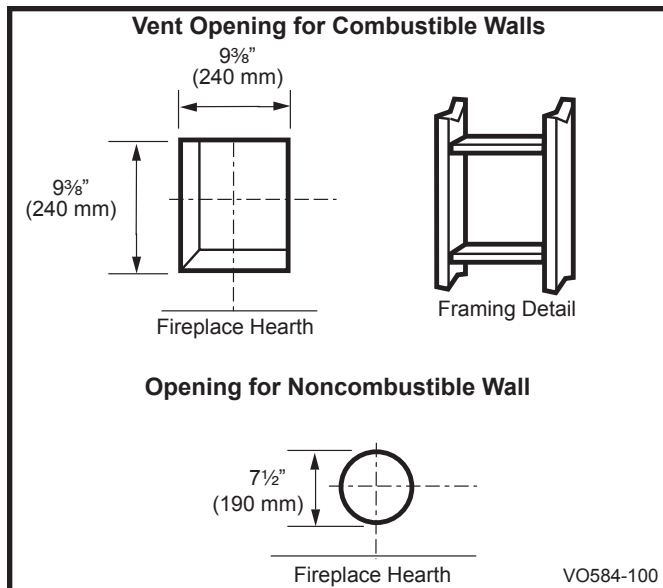

Fig. 32 Locate vent opening on wall.
Locate vent opening on the wall. It may be necessary to first position the fireplace and measure to obtain hole location. Depending on whether the wall is combustible or noncombustible, cut opening to size. (Fig. 32) (For combustible walls first frame in opening.)
Combustible Walls: Cut a 9 3/8"H x 9 3/8"W (240 mm x 240 mm) hole through the exterior wall and frame as shown. (Fig. 32)
1. Establish vent hole through the wall (Fig. 32)